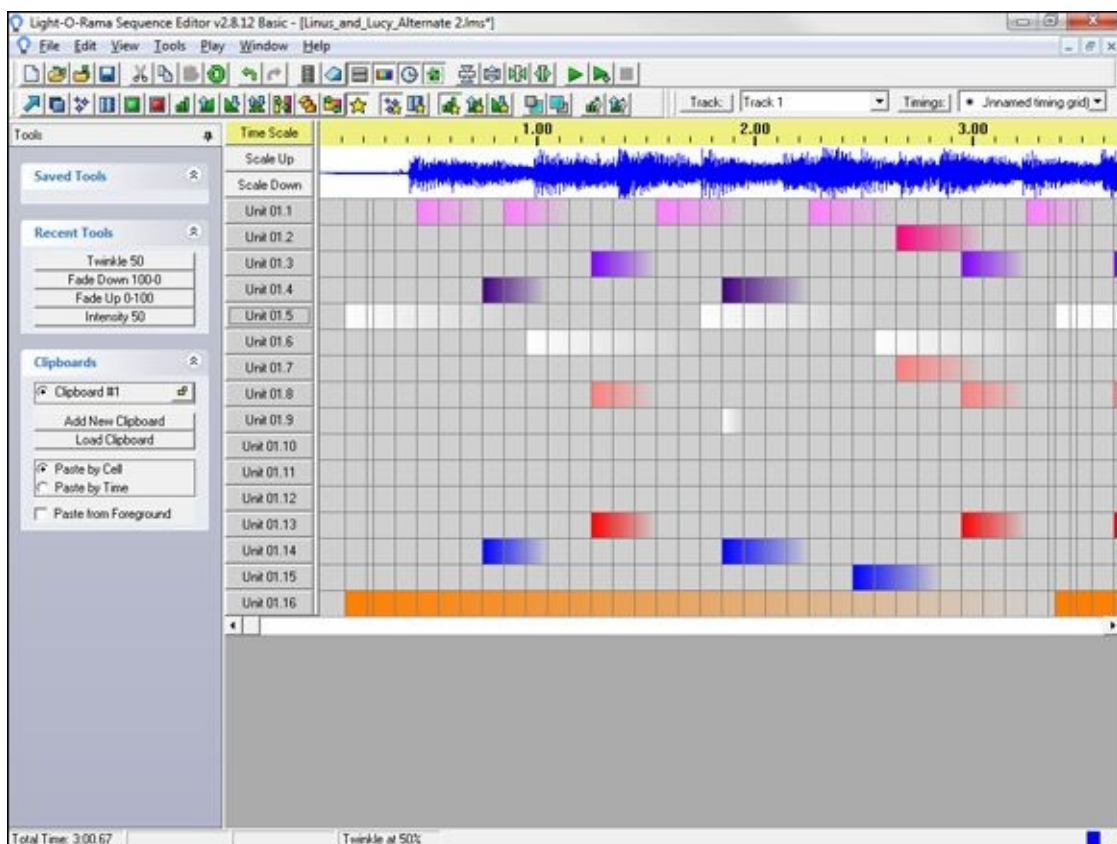

FIGURE 2-12: Displaying the waveform.
- If it helps, you can make the wave file visible by choosing View ⇒ WaveForm. Figure 2-12 shows a sequence with the waveform visible.